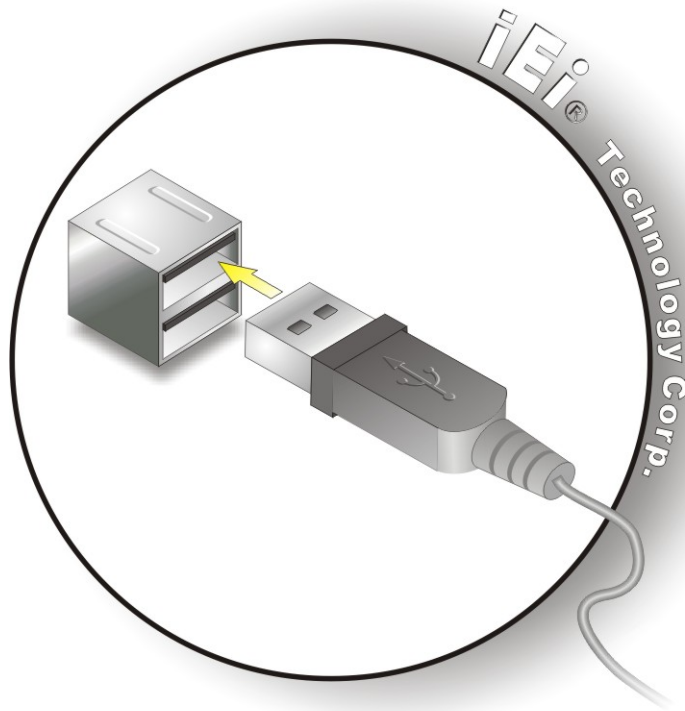

Figure 5-22: USB Connector
Step 2: Insert a USB Series "A" plug. Insert the USB Series "A" plug of a device into the USB Series "A" receptacle on the external peripheral interface. See **Figure 5-22**.